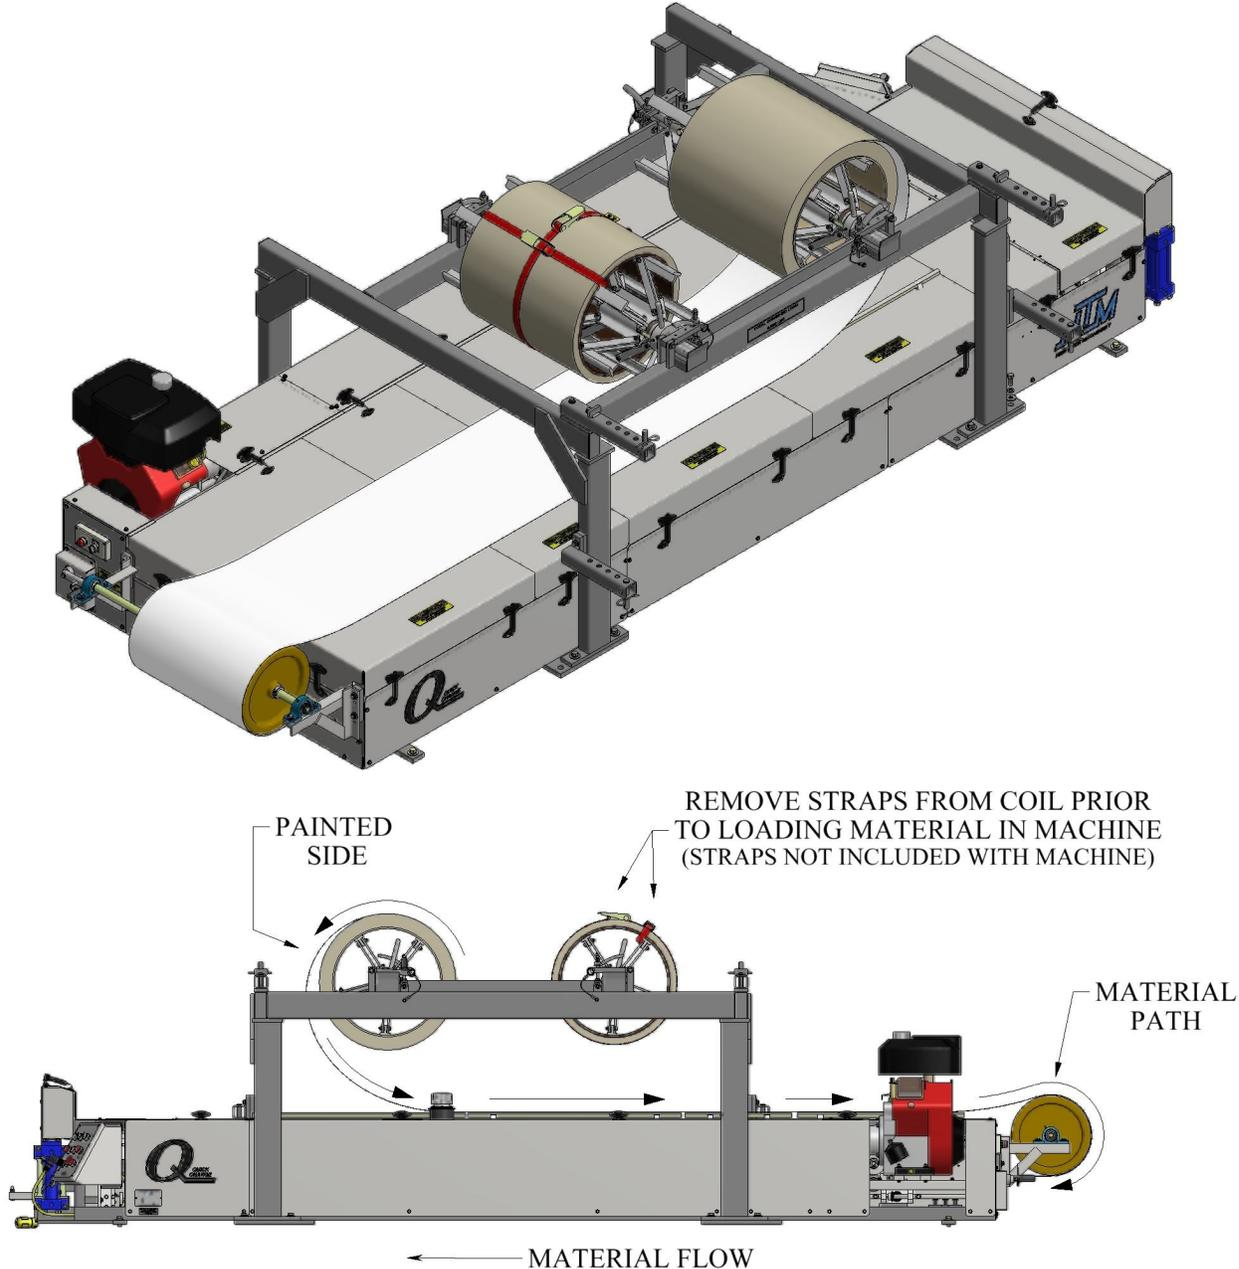

Figure 12: Material Routing
2. Using an approved lifting device, lift the reeled coil into the cradles on the reel stand making sure that the tail of the coil is in the correct position (**Figure 12**) then remove the lifting device.